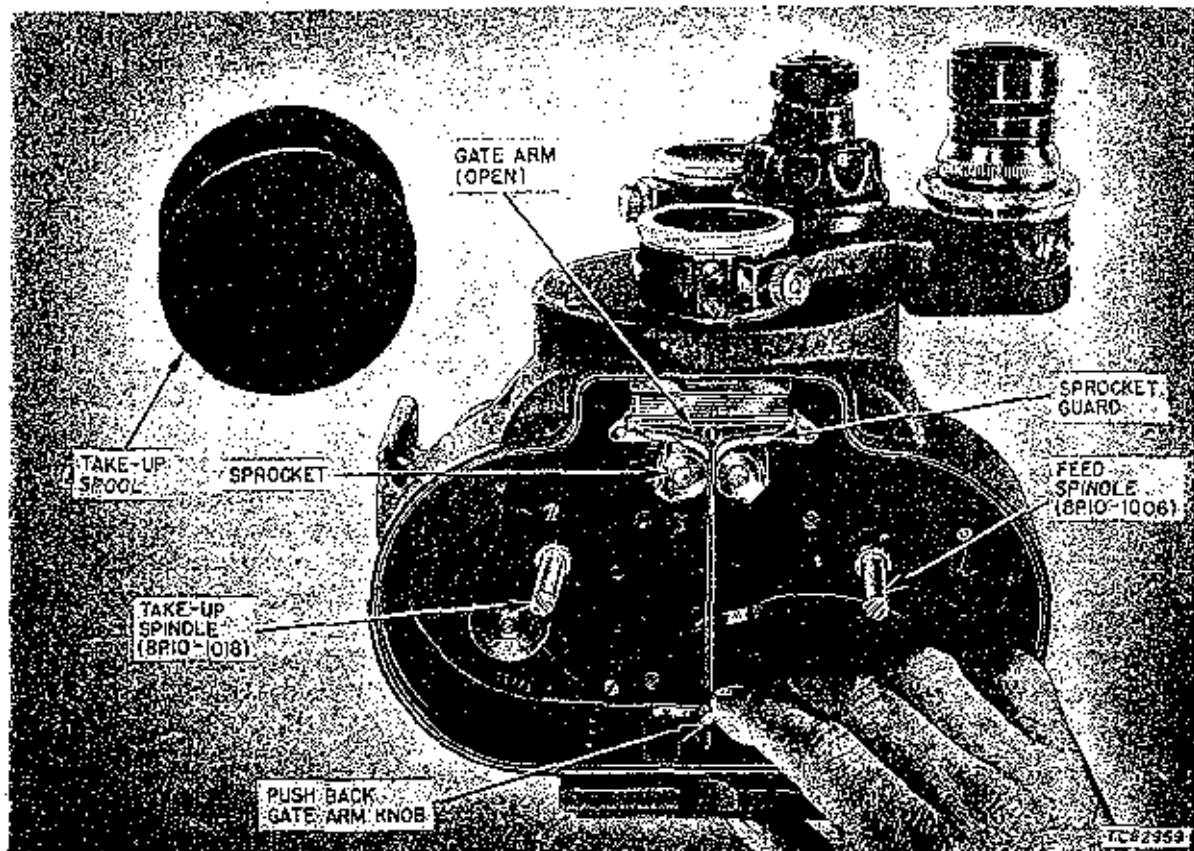

Figure 25. Before loading, Camera PH-330-(*); opening film gate.
c. Remove the take-up spool (fig. 25). With the camera in the position described above, the take-up spool is at the left and the feed spool
is at the right. Both the feed and the take-up spindle (fig. 25) are now empty.
d. Open the film gate by pressing the gate arm knob (fig. 25) toward the back of the camera. Be sure to move the knob as far back as it will go, as the flange on the gate arm forces the sprockets away from the sprocket guards (fig. 25).